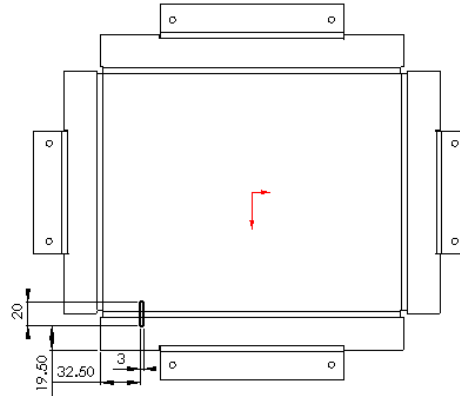

Figure 16-166 Sketch of the cut feature
- Create the slots using the cut feature and pattern it on the sides of the flatten sheet metal component, refer to Figures 16-166 through 16-168.
3. Create the sketch as shown in Figure 16-166.